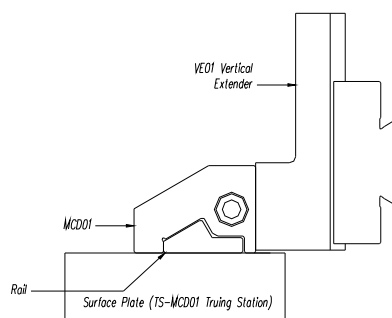

Figure 1
STEP 1. The HA01 is designed to provide a horizontal dovetail reference. Most all work holders can be rotated 90 degrees in the x-axis with the HA01. The HA01 is used with the VE01 vertical extender as shown in Fig. 1.